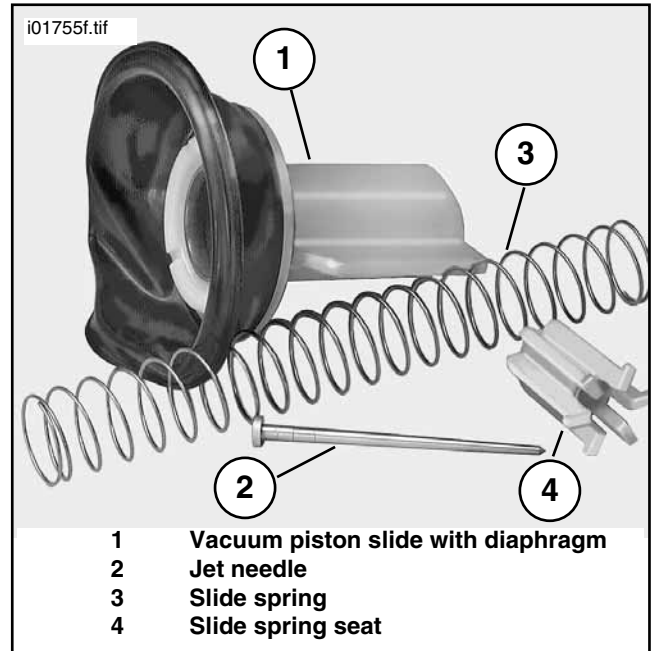

Figure 1. Vacuum Piston Chamber Slide Components
1. See Figure 1 and Service Parts Illustration. Remove the carburetor top. Remove the slide spring, spring seat, jet needle and metal vacuum piston slide.